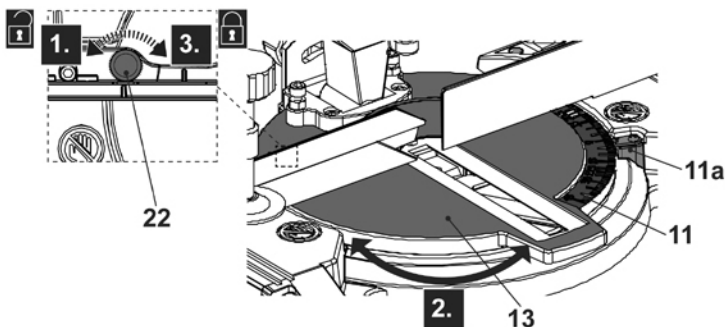

Fig. 5
- > Turn the turntable locking knob (22) anti-clockwise to loosen it (Fig. 5, step 1).
- > Rotate the turntable (13) (step 2) until the mitre angle pointer (11a) aligns with the required angle on the mitre scale (11).
- > Tighten the turntable locking knob (22) afterward (step 3).